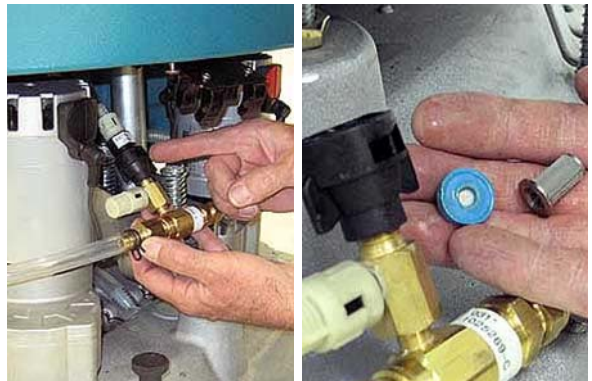

FIG. 83
3. Unthread the black plastic filter housing and replace the orifice plate and filter (Figure 83).